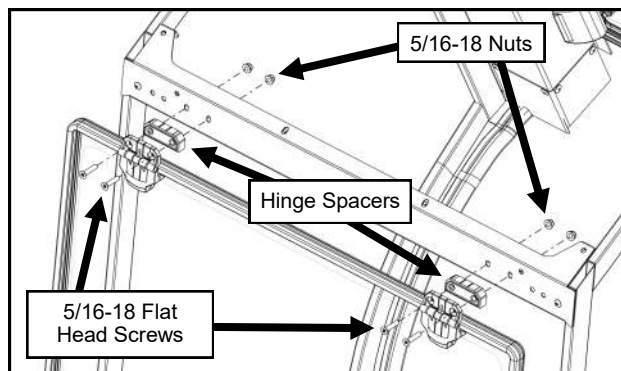

Fig. 12.1 (Windshield)
- 12.1** With assistance, set the windshield up to the side frames and secure it to the windshield support using the hinge spacers and hardware. See Figure 12.1. Leave hardware loose.